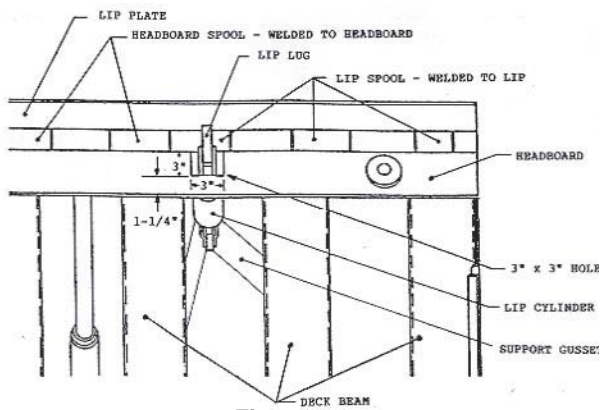
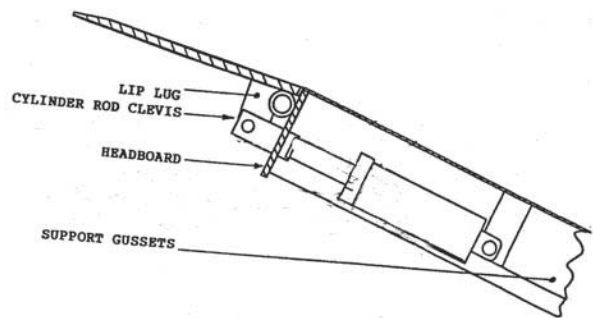
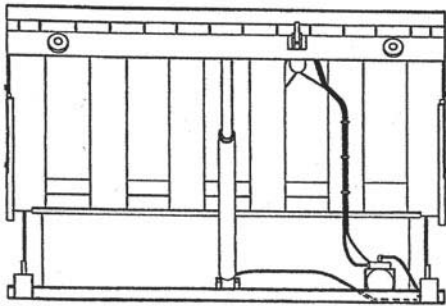

Figure 3
Figure 5
Figure 8
8) Inspect the underside of the deck assembly and the lip hinge to select a suitable position for the new lip extension components. This must be to one side of the deck, between two of the main deck beams as shown in Figure 8, and be located so as to allow the lip-lug, Figure 3, to be attached to the lip at a hinge spool that is welded to the lip (when possible).
Figure 3 is a bottom view illustration of a typical location of lip extension components.
10) Using the lip lug to locate a vertical center line, cut a 3" x 3" hole in the headboard as shown in Figure 3. When completed, there must be no less than 1-1/4" of original headboard material remaining below the 3" square hole. Clean-up all edges of hole when completed.
14) Observe the lip lug, lip cylinder and lip cylinder mounting bracket for correct alignment for free movement. If required, break the tack-weld of the misaligned component and move the component to assure free movement with no binding as the lip is raised or lowered. When all is aligned satisfactorily and cylinder is collapsed to 1" shorter than its fully extended length, securely tack-weld all components into position and then tack-weld the two, cylinder mounting bracket, support gussets, Figure 3 and Figure 5, to the deck plate, mounting bracket and beams.
Figure 5 is a side view illustration of lip cylinder and related components correctly installed.
Figure 8 is a front view illustration of a typical completed conversion, showing the location of the deck cylinder and lip extension cylinder, located between deck beams.